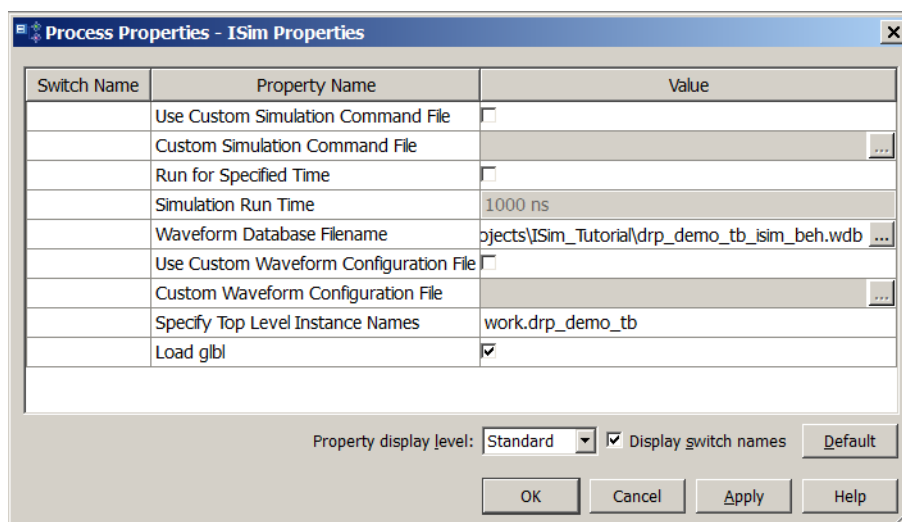

Figure 2-8: ISim Properties Dialog Box
4. Right-click **Simulate Behavioral Model** under the ISim Simulator process and select **Process Properties**. The ISim Properties dialog box opens (Refer to Figure 2-8).